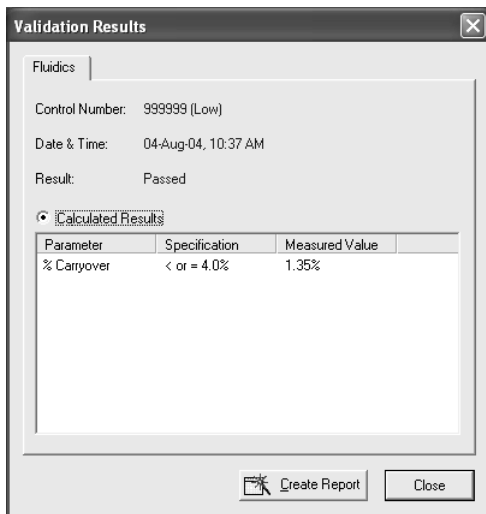

Fig. 7. Fluidics validation results.
8. When the procedure has been completed, results will appear in a dialog box, as shown in Figure 7: